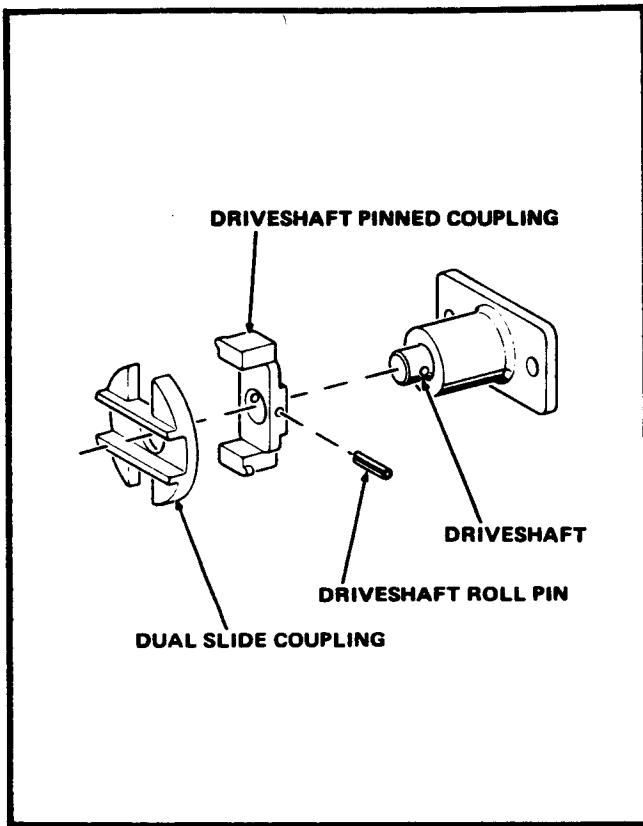

FIGURE 19
8. Using a 3/32" Pin Punch remove the Driveshaft Roll Pin from the Tray Driveshaft Assembly. See Figure 19.
9. Remove the Dual Slide Coupling and the Driveshaft Pinned Coupling from the Driveshaft. See Figure 19.